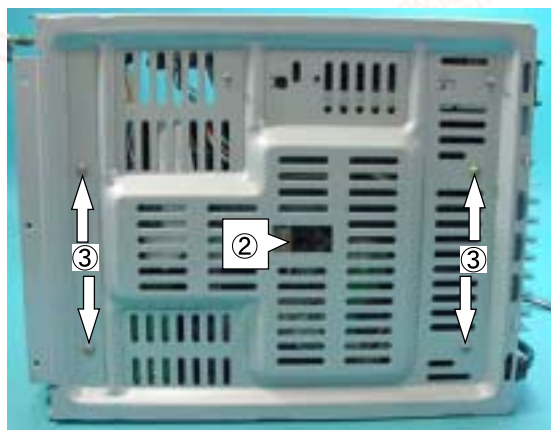

Fig.4-1
7. Short-circuit the shorting lands of the optical pick-up unit at the location shown as "2" in Fig. 4-1. Remove the four screws "3".